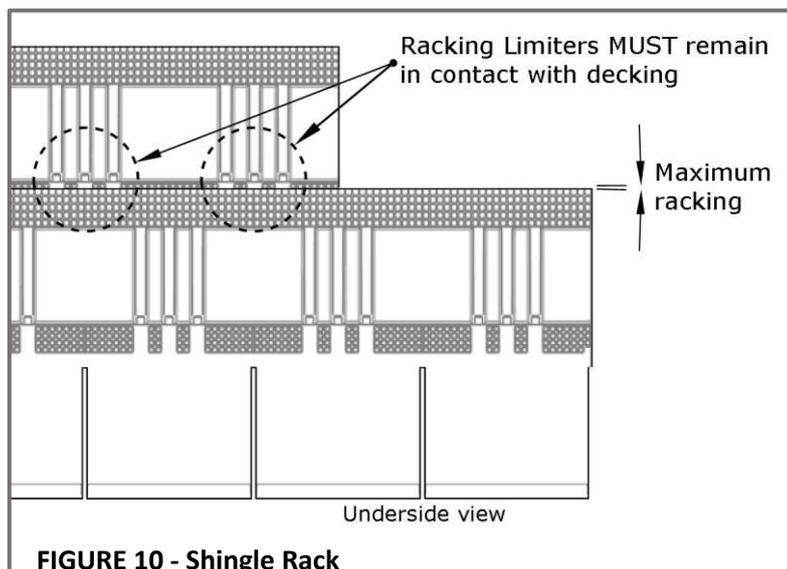
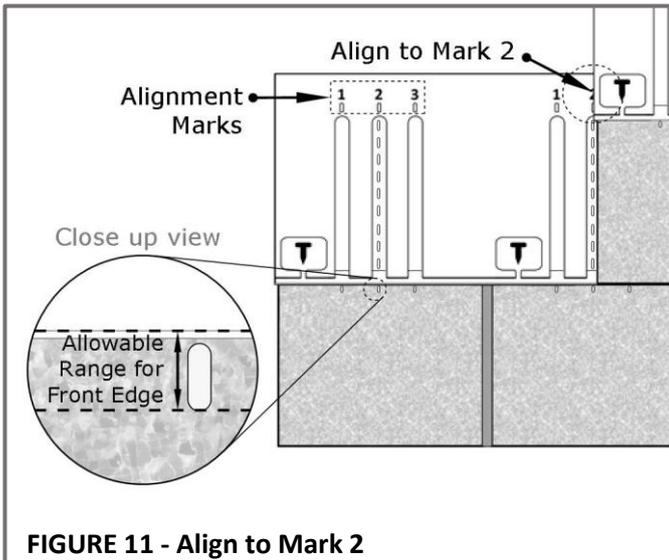

FIGURE 10 - Shingle Rack
FIGURE 11 - Align to Mark 2
- F-WAVE® REVIA® XTM Roofing Shingles have been designed to allow some rack (skew) when installed. See **Figure 10**, and **Figure 11**.
- For Designer Slate: American Blends, always place the edge of the shingle on alignment mark #2. See **Figure 11**.